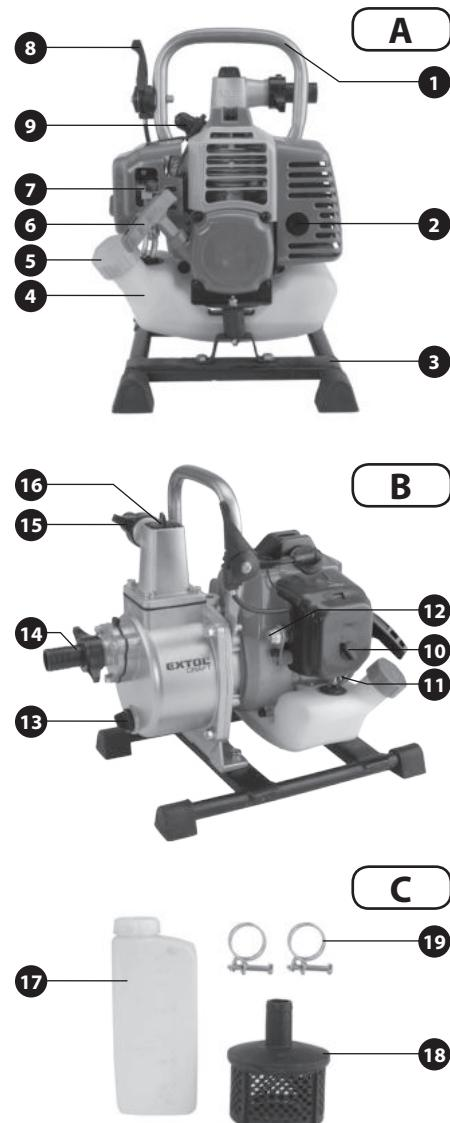

Fig. 1
- Always insert a inlet strainer onto the entry into the suction hose (fig. 1 C, position 18). The inlet strainer prevents sucking larger mechanical particles and objects into the hose and thereby prevents the hose